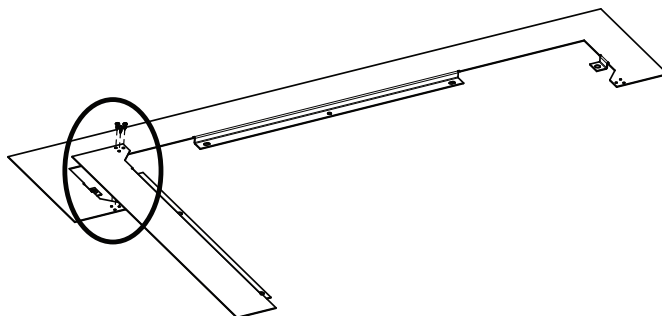

Figure 21.4
1. Align holes from Surround Extension RH Side and Surround Extension Top (**Figure 21.4**).
2. Using a Phillips head screwdriver and three (3) #8 x 1/2 Phillips head screws; secure Surround Extension RH Side to Surround Extension Top (**Figure 21.4**).